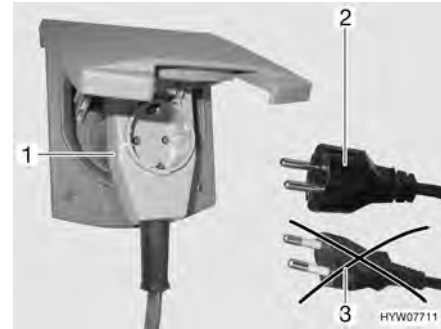

Fig. 100 Connecting an angled connector with socket
- ▶ When using a CEE 17 angled connector with rear socket (Fig. 100,1) only use a rubberised and sealed IP 44 socket with earth contact (Fig. 100,2). Do not use sockets without earth contact (Fig. 100,3).